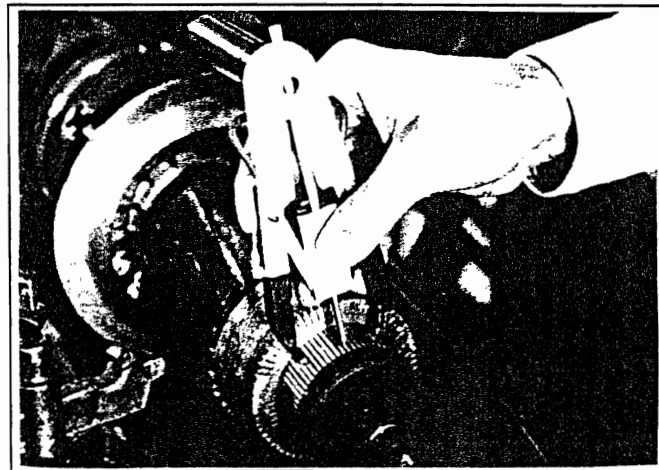

Figure 5. ATF-10 Placement on Commutator
2. Place the pins of the ATF on the commutator so that each pin keeps positive contact with only a single bar. Figure 5 shows the correct test fixture placement.